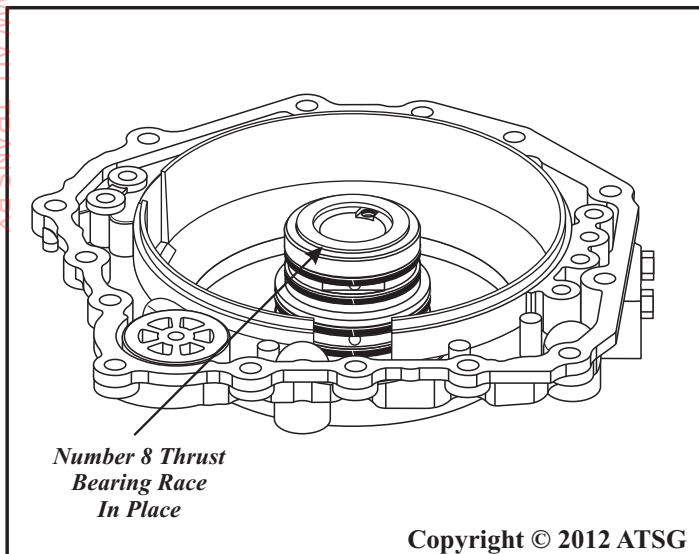

Figure 265
55. Install number 8 selective thrust race onto the rear cover, as shown in Figure 265, and retain with small amount of Trans-Jel®.